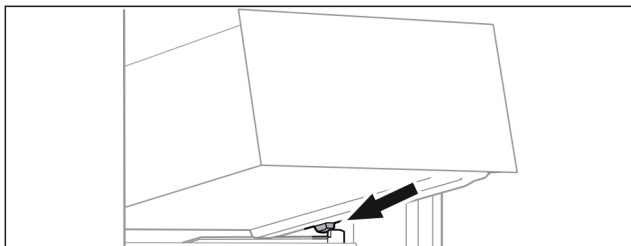

Fig. 113
- ▶ Place drawer at an angle behind the stoppers on the moulded rib. (see Fig. 113)